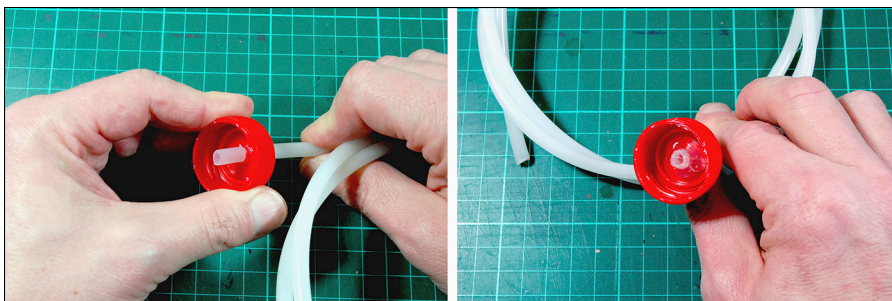

Figure 10-12:
6. **Cut a hole in the bottom of your medium plastic plant pot, which acts as a support for your two-liter bottle. See Figure 10-12.**
When you've finished fabrication, install your reservoir onto your base to check the fit, as shown in Figure 10-12. For the ultimate test, fill the bottle with water, covering the small hole in the bottom. Screw on your supply line assembly and invert it to check for leaks.